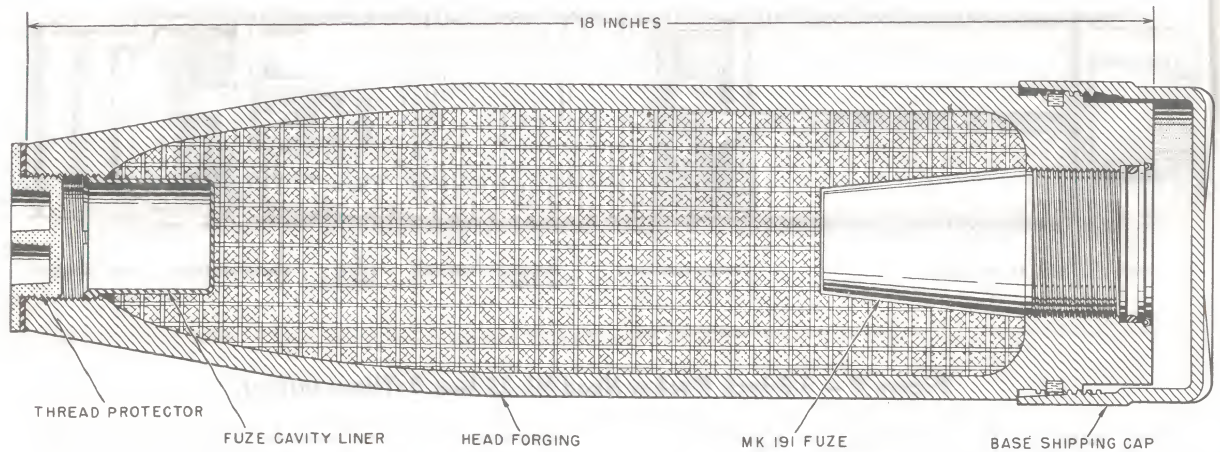

Figure 8 - 5.0-Inch Rocket Head Mk 24 Mod 0 (GP).
**5.0-INCH ROCKET HEAD MK 24 MOD 0 (GP).** The Mk 24, general purpose (GP) head, shown in figure 8, with nose fuze installed, is 18 inches long, weighs 48 pounds, and carries 10 pounds of explosive. Upon detonation the head produces more than 500 fragments that penetrate 3/8-inch-thick mild-steel